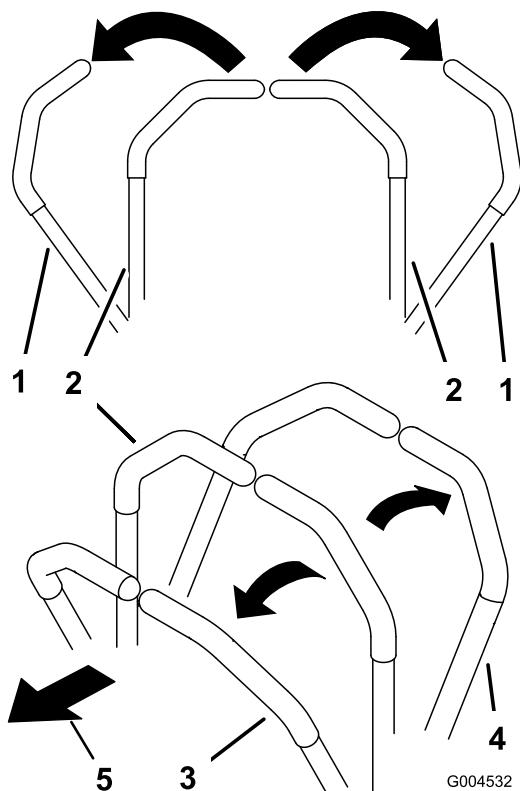

Figure 49
1. Move the motion control levers (Figure 49) out to the neutral locked position.
- To go straight forward, slowly push the motion control levers forward (Figure 49).
- To go Straight backward, slowly pull the motion control levers rearward (Figure 49).
- To turn, slow the machine by pulling back on both levers and then push forward on the lever on the opposite side from which you want to turn (Figure 49).